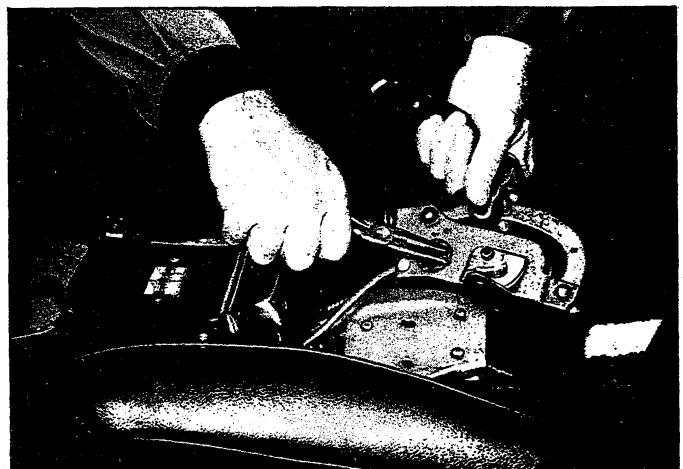

Fig. 25—Removing or Installing Front Cable
8. Remove front cable from lever assembly using long nose pliers as shown in Figure 25. Remove lever from vehicle.
1. Install front cable in lever assembly using long nose pliers as shown in Figure 25. Slide slack cable through hole and place lever assembly in position.